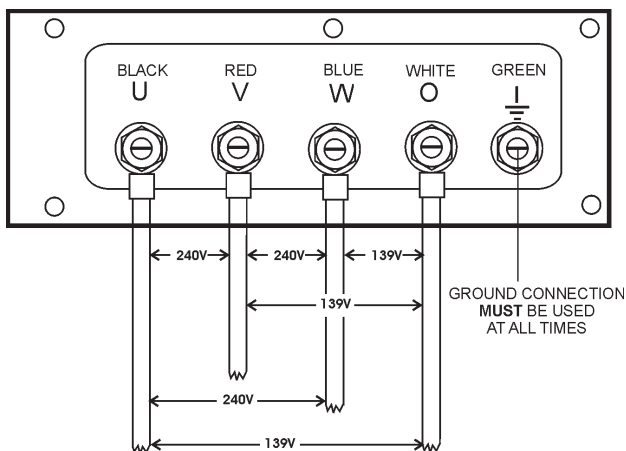

Figure 19. UVWO Terminal Lugs 3Ø-240/139V Connections
2. Connect the load wires to the UVWO terminals as shown in Figure 19.